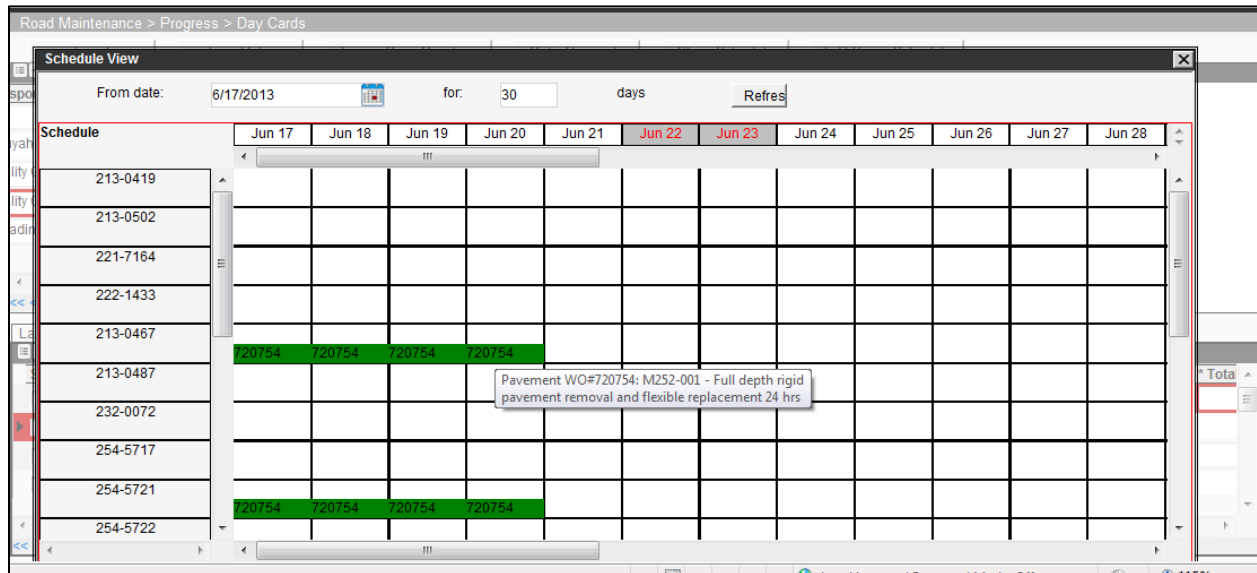

Figure 4-17. Day Cards – LEM Schedule View Dialog Box Example
- The Schedule View dialog box (Figure 4-17) shows a schedule with dates along the top and the list of resources along the left side. Dates in red indicate non-working days.
- If the user hovers over a bar, a floating box shows the Work Order Number, Activity, and Duration of the Day Card (Figure 4-17).